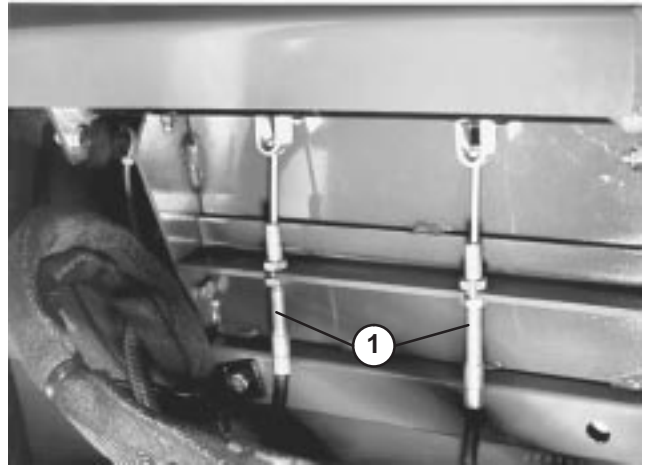

Figure 66
- To reduce free travel of brake pedals, tighten the brakes by loosening the front nut on threaded end of brake cable (Fig. 66). Then tighten rear nut to move cable backward until brake pedals have 1/2 to 1 inch of free travel. Tighten front nuts after brakes are adjusted correctly.